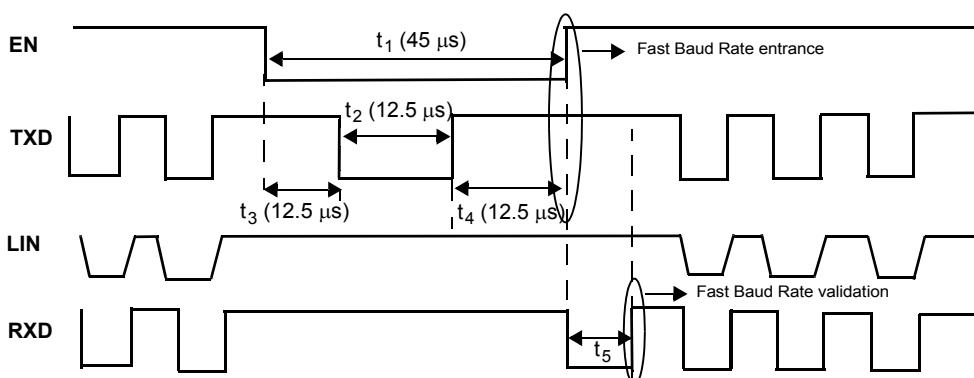

Figure 19. Fast Baud Rate Selection (Toggle Function) for LIN1 or LIN2
30. See Figures 19 and 20
For each LIN Module, the Fast Baud Rate selection is reported by the RXD pin. Fast Baud Rate is activated by the toggle function (See Figure 19). At the end of the toggle function, just after EN rising edge, RXD pin is kept low for t_5 to flag the Fast Baud Rate entry (See Figure 19).
A combination of the logic levels on EN1 (EN2) and TXD1 (TXD2) pins allows the device to enter in Fast Baud Rate mode of operation (see Figure 19).
The LIN Module enters into the fast baud rate if the delay between step 1 to step 5 is 45 μ s maximum. The toggle function is described in Figures 19. Once in fast baud rate, the same toggle function just described previously is used to bring the LIN Module 1 back into normal baud rate.
Fast baud rate selection is reported to the MCU by the RXD1 pin. Once the LIN Module 1 enters in this fast baud rate, the RXD1 pin goes at low level for t_5 . When LIN Module 1 returns to normal baud rate with the same toggle function, the RXD1 pin stays high. Both sequences are illustrated in Figures 19 and 20.